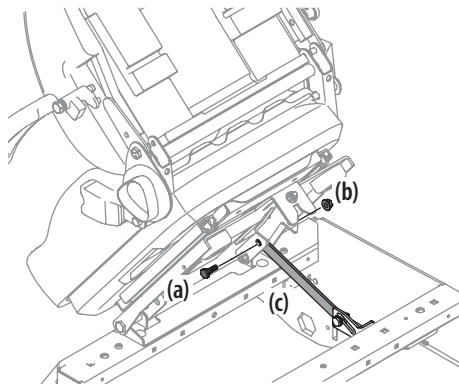

Figure 8
3. Remove the shoulder screw (a) and flange lock nut (b) from manual bag and install the seat lockout bracket (c) as shown in Figure 8.